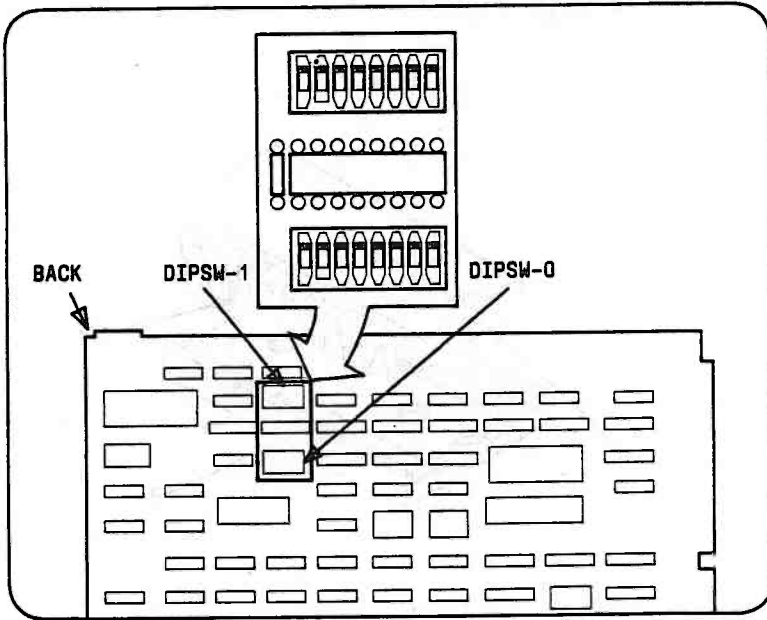

Figure 3-6. Locating DIPSW-0 on the Motherboard
12. Locate DIPSW-0 on the Motherboard (Figure 3-6).